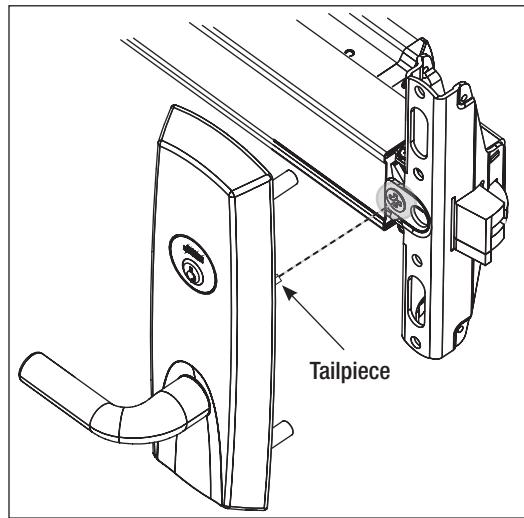

Fig. 5b (door not shown)
- b. Seat device against door being careful to align vertical trim tailpiece to engage with cross hole of device cam - **see Figure 5b.**